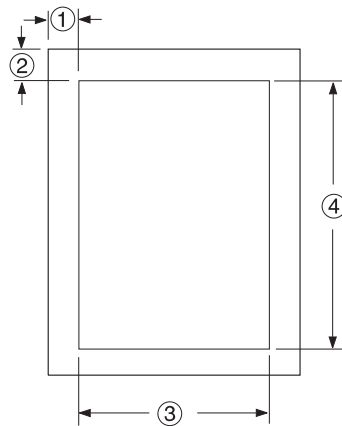

Figure 20. Logical Page Dimensions
**Note:** The parenthetical numbers represent dimensions. Figure 20 shows how these dimensions relate to the logical page.